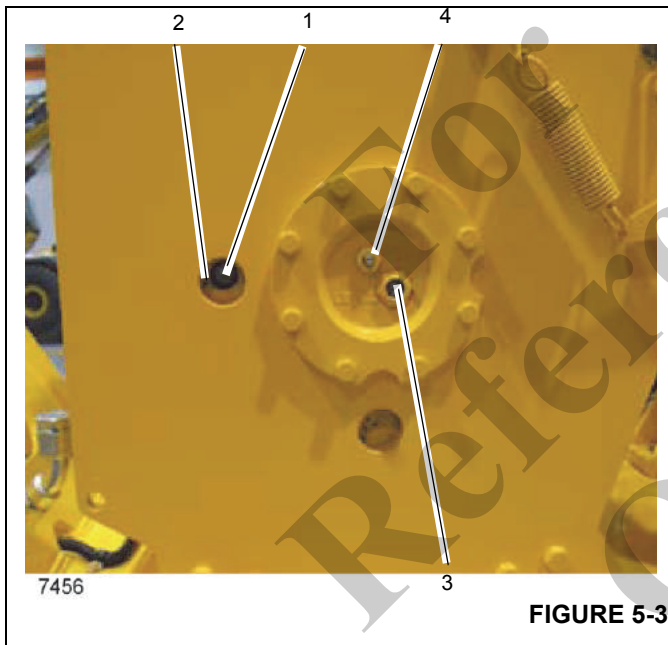

FIGURE 5-3
NOTE: Failure to align the fill/drain plug (1) with the upper access hole (2) as shown in Figure 5-3 prior to checking the oil level will result in an inaccurate reading.
1. Rotate the hoist drum until the fill/drain plug (1) appears in the upper access hole (2) shown in Figure 5-3.